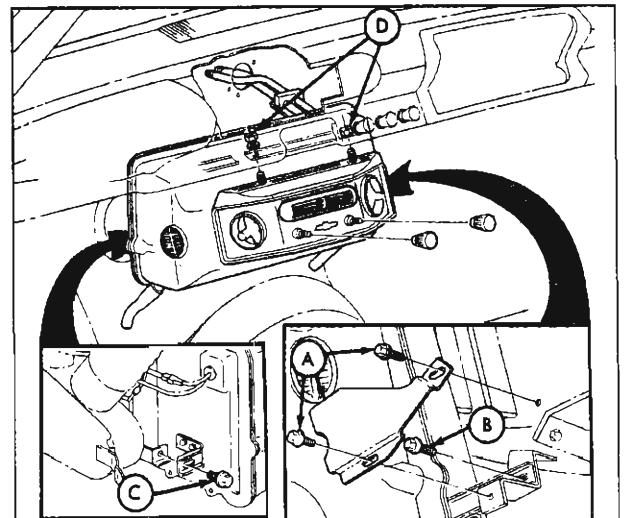

Fig. 56—Evaporator Removal
6. Remove the two shield attaching screws and shield (A, fig. 56) which covers the lower right evaporator bracket-to-blower bracket attaching screw (B, fig. 56), then remove this screw.
7. Behind the lower left side of the evaporator, remove the evaporator bracket-to-heater distributor bracket attaching screw (C, fig. 56).
8. Reaching through the glove box door and ash tray openings, remove the two nuts and washers (D, fig. 56) attaching the evaporator assembly studs to the lower instrument panel flange and reinforcement.